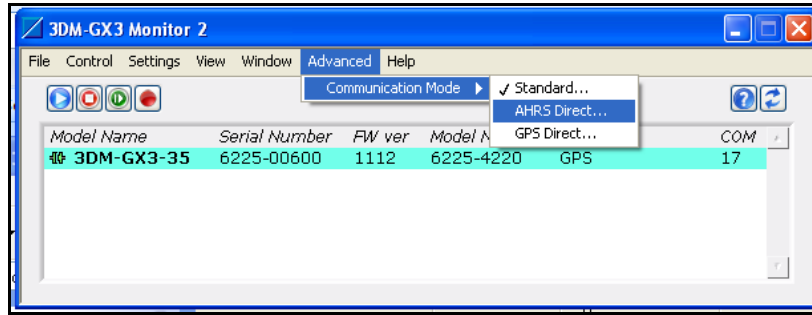

Figure 1
- c. Click Advanced. Click Communications Mode. Click AHRS Direct as shown in *Figure 1*.